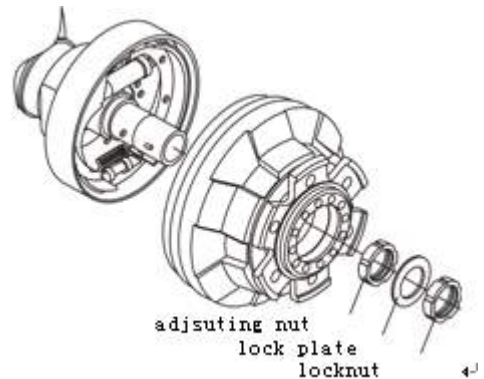

Fig.5.2 Filling lubricants
- 1) Add 100cc grease into the wheel hub, then assemble the wheel hub on the axle. (figure 5.2)